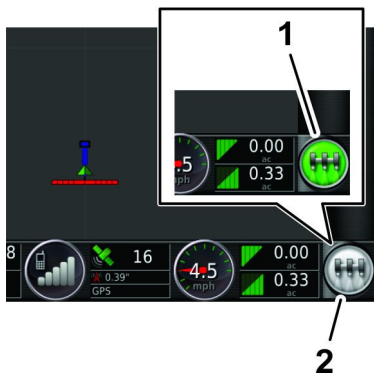

Figure 204
- On the GeoLink control console, press the MASTER SWITCH icon (Figure 204) to the ON (green).